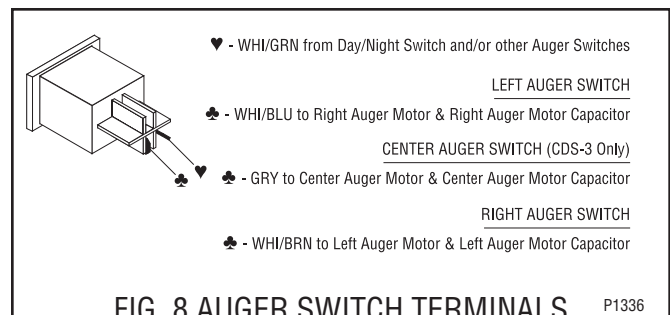

FIG. 8 AUGER SWITCH TERMINALS
7. Reconnect the wires to the switch. Refer to Fig. 8 when reconnecting wires.